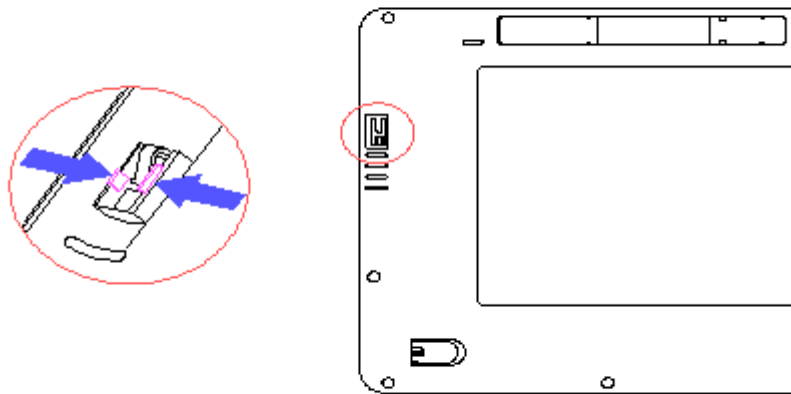
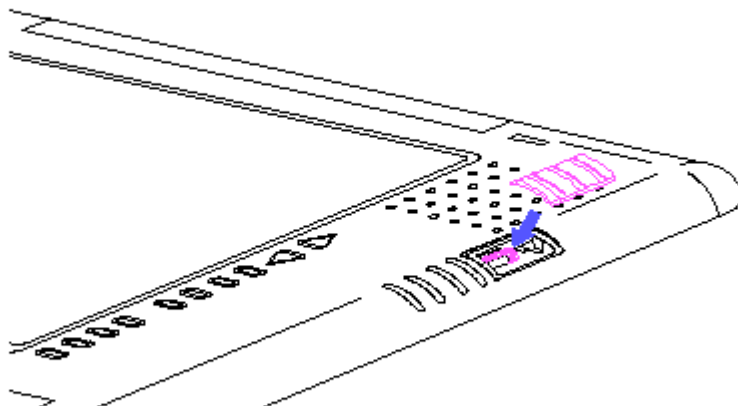

Figure 3-17. Releasing the Switch Actuator
Figure 3-18. Installing the Actuator Spring and Actuator
4. From the rear of the CPU cover, disengage the switch actuator tabs to release the actuator from the cover (Figure 3-17), and free the actuator spring (Figure 3-18).
- a. Install the actuator spring (Figure 3-18).
- b. Beginning at the top of the opening in the cover for the switch actuator, slide the switch actuator into position and then snap it into place (Figure 3-18).